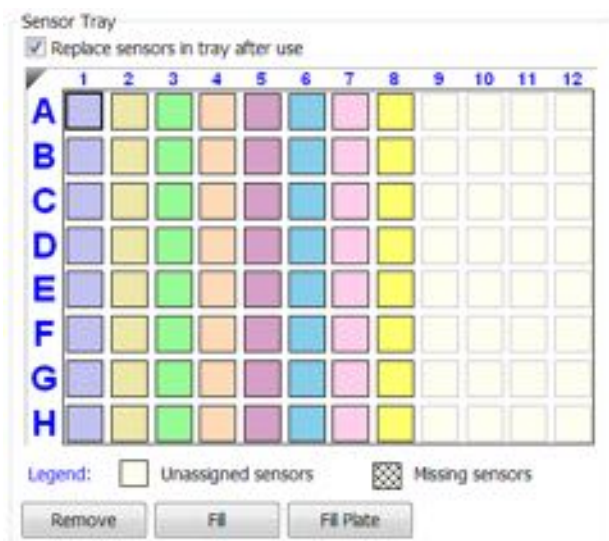

Figure 6-41: Replace Sensors in Tray After Use Check Box
10. Optional: After an assay is completed, the biosensors can be returned to the biosensor tray or ejected through the biosensor chute to an appropriate waste container. To return the biosensors to the tray, click the **Replace sensors in tray after use** check box (see Figure 6-41).